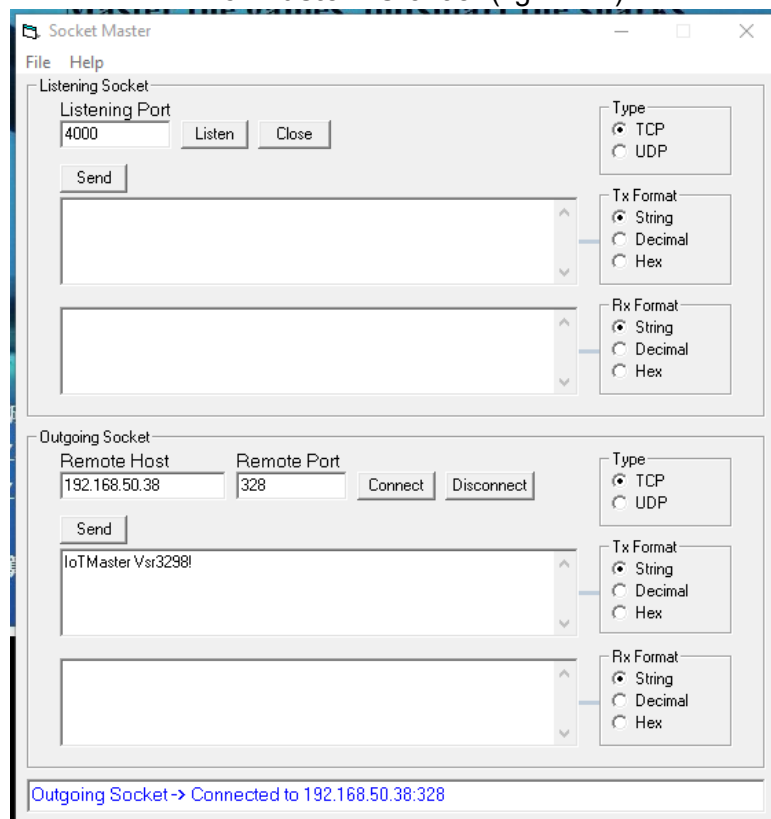

Figure 12: Connect to controller through Socket Master
- Enter and send the command **IoTMaster Vsr3298!** (figure 12)